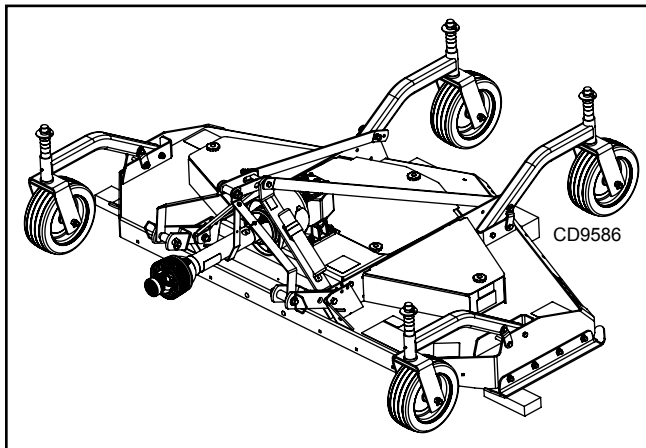

Figure 17A. Mower Storage Position - Quick Hitch
4. Disconnect mower from tractor 3-point hitch, and carefully drive tractor away from mower. See Figure 17A.